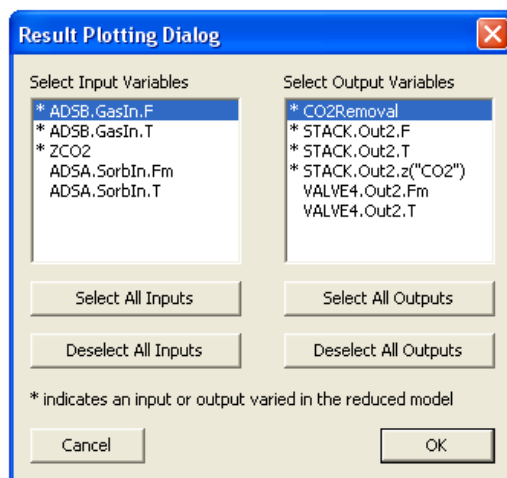

Figure 34: Result Plotting Dialog Window
21. Issue the **Post-Process → Plot/Compare Training Responses...** command or click  on the toolbar. The “Result Plotting Dialog” window as shown in Figure 34 displays.
23. Issue the **Post-Process → Plot/Compare Validation Responses...** command or click  on the toolbar. The “Result Plotting Dialog” window as shown in Figure 34 displays. Select one or a few input variables and one or a few output variables and then click “OK”. A MATLAB command window displays immediately followed by the plot window and then a confirmation message box window. Click “OK” in the message box window to close the MATLAB windows.